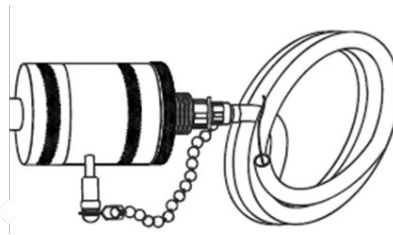

Figure 5: Outlet Hose
h. If not already connected, screw the outlet hose onto the sampler base. Depending on the type of sampler, it may also be necessary to ensure there is a nylon plug inserted into the open port on the side of the sampler base opposite the bypass hose to prevent leakage (Figure 5).